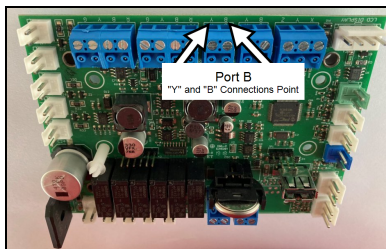

Figure 4 - Control Board Port
7. Connect the communication cable to the heat pump's control board (RS-485 Port "B") See Figure 4.